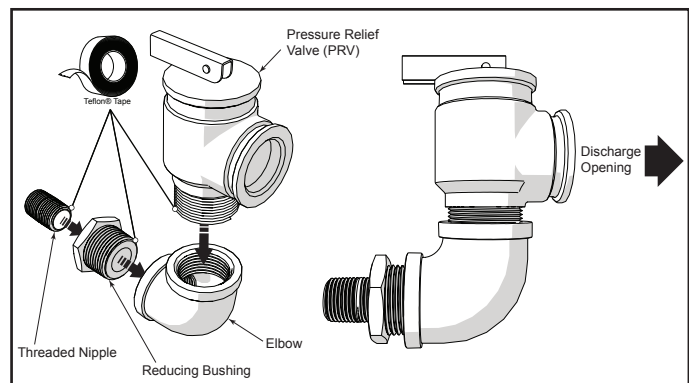

Figure 19. Pressure Relief Valve (PRV) Assembly
- Assemble the threaded nipple, reducing bushing, elbow and pressure relief valve (PRV) as shown in "Figure 19. Pressure Relief Valve (PRV) Assembly" on page 20.